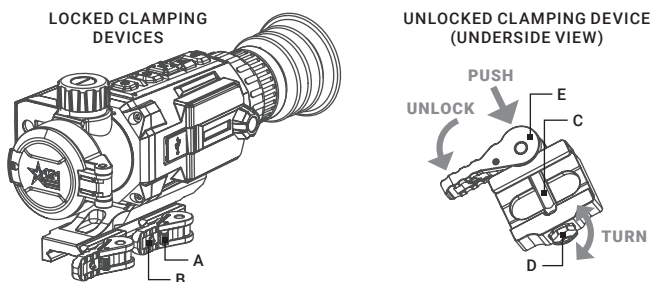

FIGURE 2-5. MOUNT
- With the clamping device unlocked (as shown in Figure 2-5), push the cam (E) towards the arrow, which will cause the nut (D) to slide out of its hole.
- To tighten/ loosen the clamping device, push down on the cam (E) and turn the nut (D) CW/ CCW respectively, in one-two increments (see note below). Much like when the cam (E) is released, backward-moving spring will cause the nut (D) to slide back into its hole.